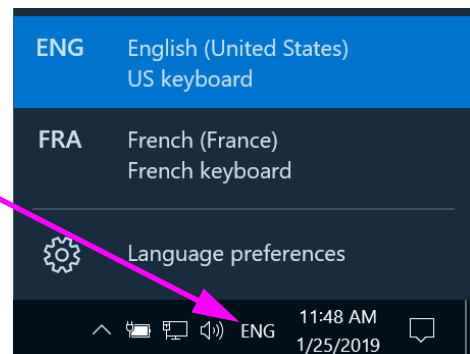

Figure C-3. Drop-Down Language Menu—Welcome Screen (Windows 10)
2. Click the three-letter icon and a menu similar to that shown at the top in Figure C-3 appears.